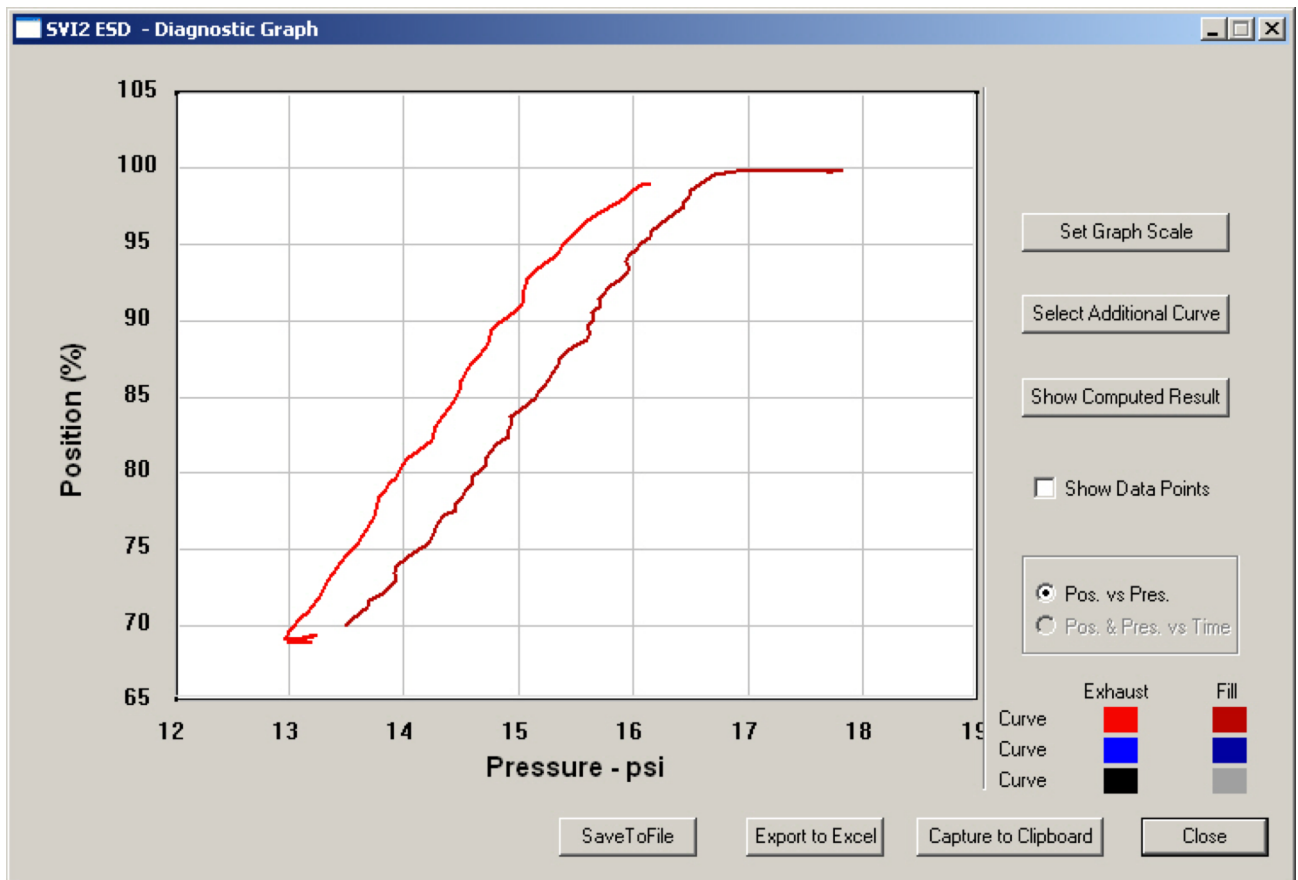

Figure 206 - Extended Signature Diagnostics Graph
6. Click **Continue** to close the dialog and view the *Diagnostic Graph* (Figure 206).
The *Extended Signature Diagnostics Graph* (Figure 206) has the same features as all other diagnostic graphs: